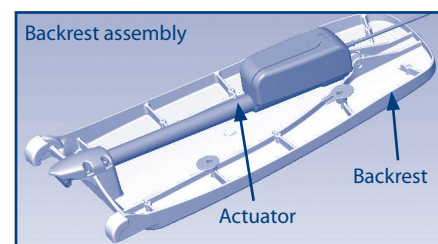

Figure 6
- ii) Place the backrest assembly carefully on the floor when not attached to the seat unit. The actuator forms a useful handgrip for transporting (see fig 6).